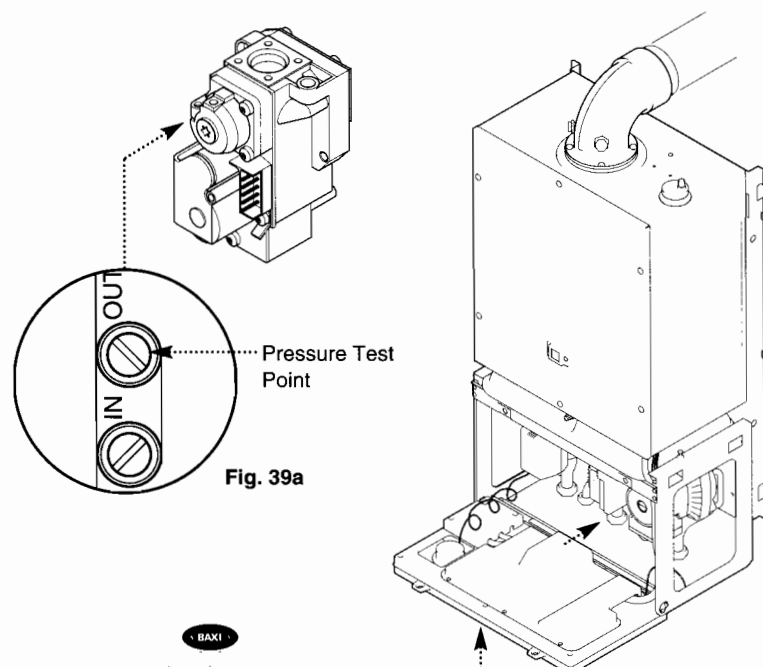

Fig. 39a
1. Fit a pressure test gauge to the burner pressure test point (Fig. 39a).